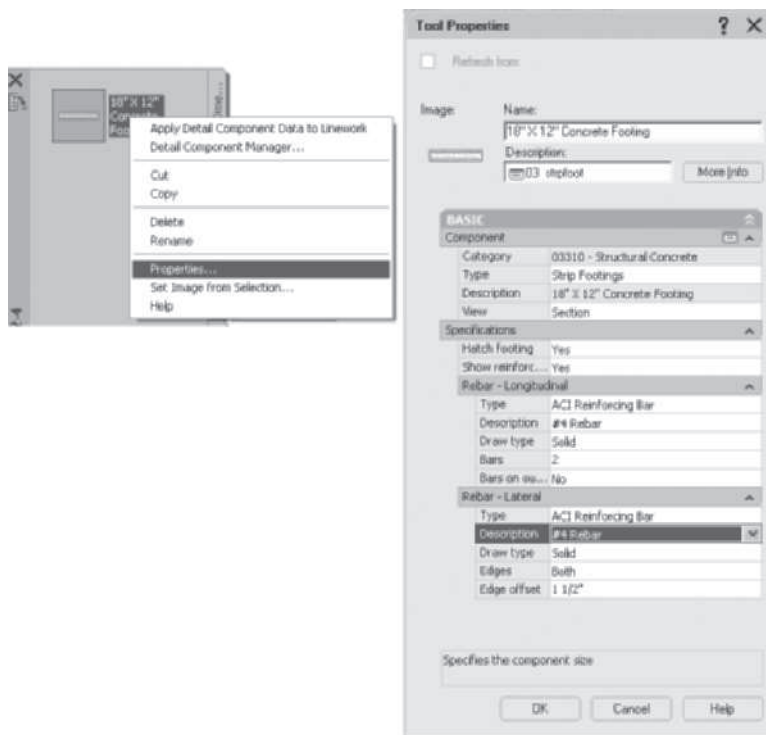

FIGURE 12.92 Settings of a detail tool
6. Right-click the tool palette titlebar and select the **Ex 12-4** palette set. Right-click the tool palette titlebar, choose **New Palette**, and overtype **My Detail** in the palette field. Select the Home tab and select **Detail Components** from the Details panel of the Home tab. Verify that the Current detail component database is {Vista—C:\ProgramData\Autodesk\ACA 2011\enu\Details\ Details (US)\ AecDtlComponents (US).mdb} or {Vista—C:\ProgramData\Autodesk\ACA 2011\enu\Details\Details (UK)\ AecDtlComponents (UK).mdb}. Expand Division 03-Concrete, 03 31 00 Structural Concrete > Strip Footings [E-In Situ Concrete/Large Precast Concrete > E10 Mixing/ Casting/ Curing In Situ Concrete > Strip Footings]. [Caution: metric readers should choose Strip Footings, not Strip Footing located above.] Click the **Selector** of the **18 × 12 Concrete Footing [600 mm × 300 mm Concrete Footing]** tool and drag it to the **My Detail** tool palette. Close the **Detail Component Manager**.
7. Right-click the **18" × 12" Concrete Footing [600 mm × 300 mm Concrete Footing]** tool on the tool palette and choose **Properties** to open **Tool Properties** as shown in Figure 12.92. Edit and verify the following in the **Tool Properties** dialog box: Component: Category = **03 31 00—Structural Concrete [E10—Mixing/Casting/Curing In Situ Concrete]**, Type = **Strip Footings**, Description = **18 × 12 Concrete Footing [600 mm × 300 mm Concrete Footing]**, View = **Section**; Specifications: Hatch footing = **Yes**, Show reinforcing = **Yes**; Rebar Longitudinal: Type = **ACI Reinforcing Bar [BS Reinforcing Bar]**, Description = **#4 Rebar [R8 Rebar]**, Draw type = **Solid**, Bars = **2**, Bars on outside = **No**; Rebar-Lateral: Type = **ACI Reinforcing Bar [BS Reinforcing Bar]**, Description = **#4 Rebar [R8 Rebar]**, Draw type = **Solid**, Edges = **Edge 2**, and Edge offset = **1 1/2" [38]**.